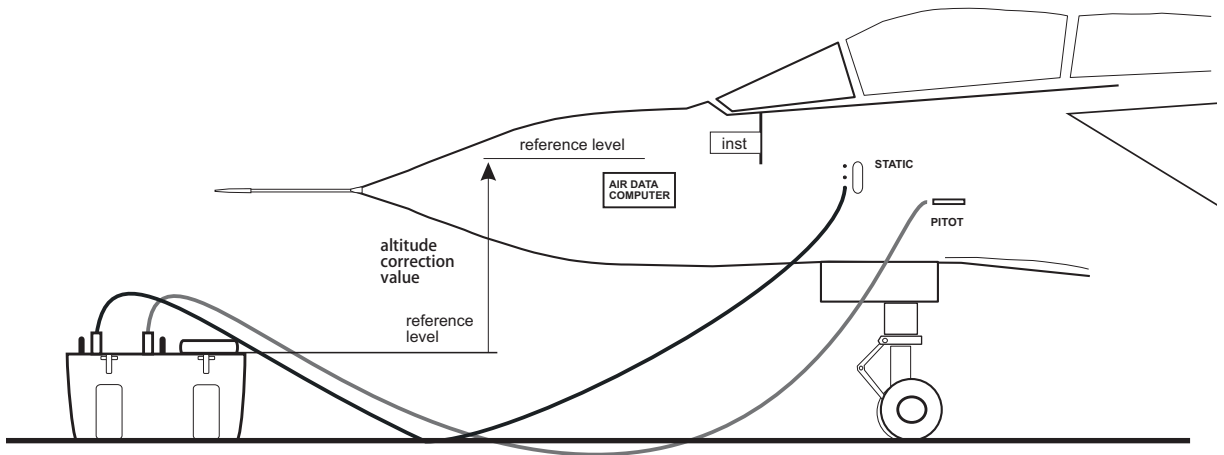

Figure 2-1 ADTS Altitude correction
9. If necessary carry out an altitude correction, see Figure 2-1 also.